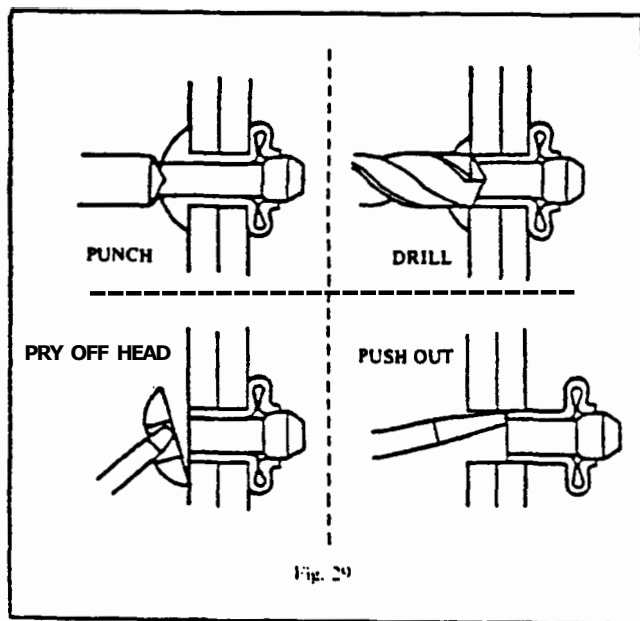

Fig. 29
- d. Push or drill out the remainder of the rivet. Be careful not to enlarge the hole in the structure. (See Fig. 29).